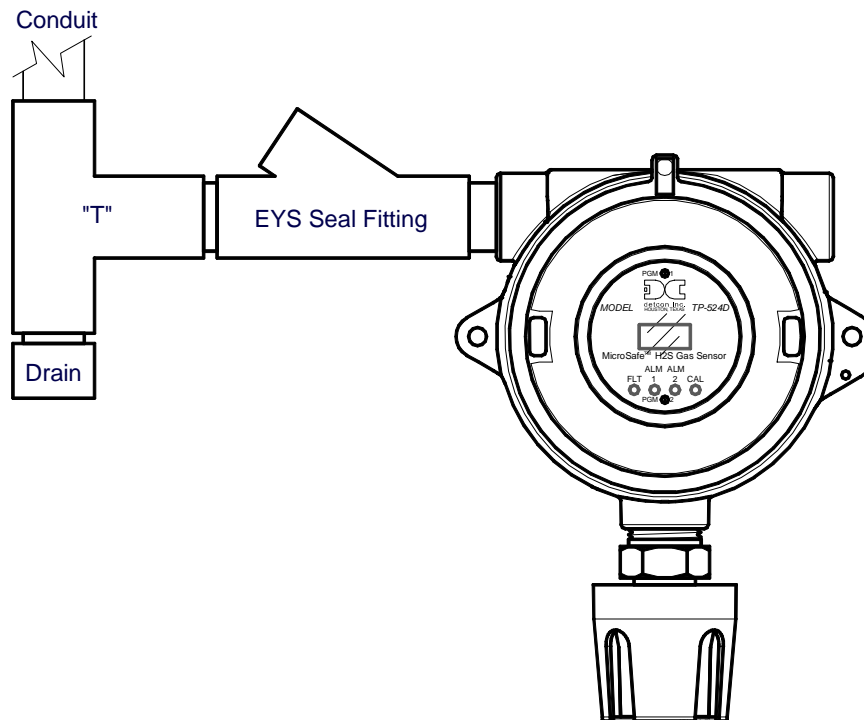
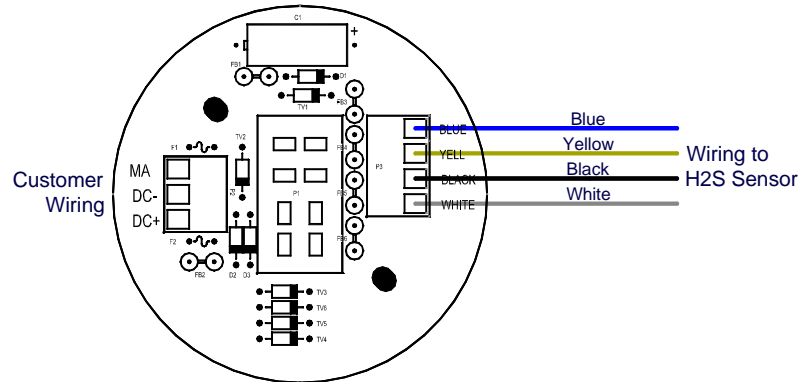

Figure 8 Typical Installation
Figure 9 Sensor Connector PCB
NOTE: In all installations the gas sensor should point straight down (refer to Figure 8). Improper sensor orientation may result in false readings and permanent sensor damage.
Proper electrical installation of the gas sensor is critical for conformance to Electrical Codes and to avoid damage due to water leakage. Refer to Figure 8 and Figure 9 for proper electrical installation.
NOTE: If a conduit run exits the secondary port, repeat the installation technique shown in Figure 8.
In Figure 8, the drain allows H₂O condensation inside the conduit run to safely drain away from the sensor assembly. The electrical seal fitting is required to meet the National Electrical Code per NEC Article 500-3d (or Canadian Electrical Code Handbook Part 1 Section 18-154). Requirements for locations of electrical seals are covered under NEC Article 501-5. Electrical seals also act as a secondary seal to prevent water from entering the wiring terminal enclosure. However, they are not designed to provide an absolute watertight seal, especially when used in the vertical orientation.
- Observing correct polarity, terminate the 3-conductor 4-20mA field wiring (DC+, DC-, and MA) to the sensor assembly wiring in accordance with the detail shown in Figure 9.